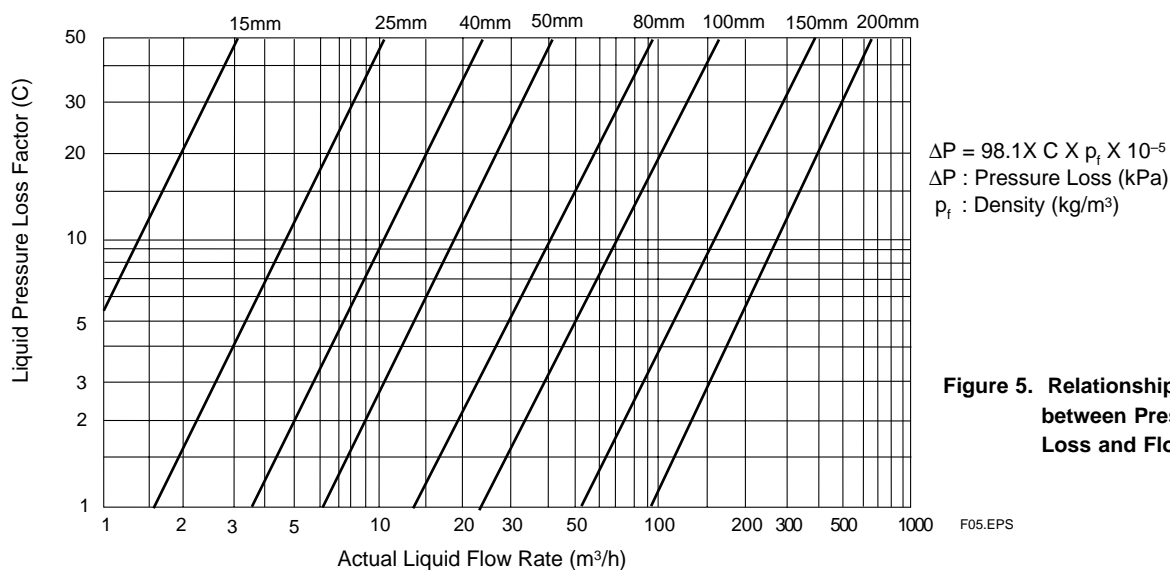

Figure 5. Relationship between Pressure Loss and Flow Rate
Figure 5, which represents the above equations, shows the pressure loss versus actual flow rate. When the adjacent pipeline is Sch 80, the pressure loss will be approximately 10% smaller than the calculated value.
- 3, Obtain the pressure loss using Figure 5. Since the liquid pressure loss factor can be read as 10.8, then: